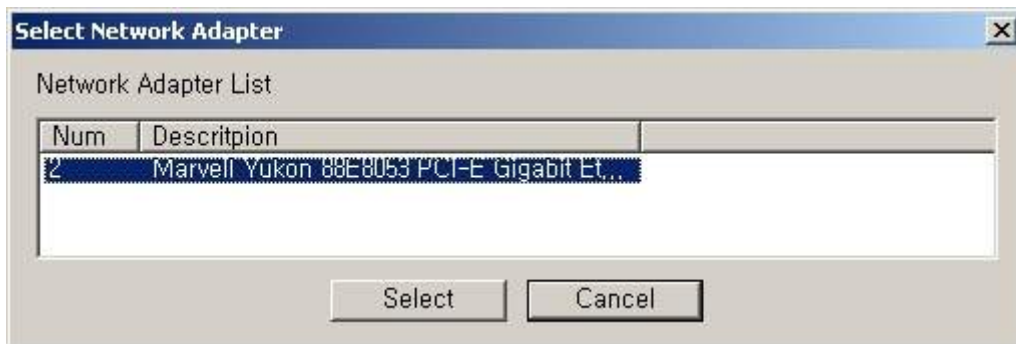

Figure 3-4. Select Network Adapter Box
3. When you enter the IP address and click Set button, the box shown in Figure 3-4 will appear.